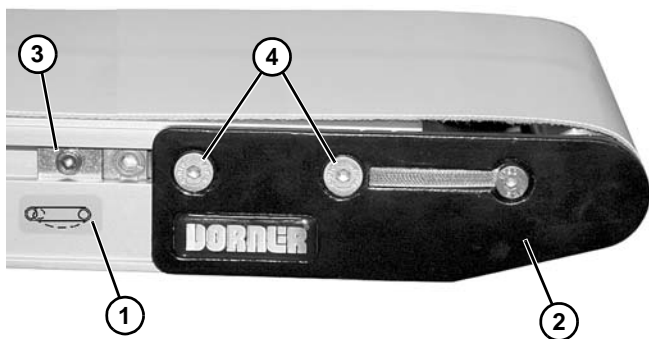

Figure 40
2. On tension end of the conveyor, identified with  a label (**Figure 40, item 1**), push in head plate assembly (**Figure 40, item 2**):
- a. On both sides of conveyor, loosen and move cam tracking assemblies (**Figure 40, item 3**) (if equipped) away from head plates.
- b. Loosen fastening screws (**Figure 40, item 4**) and push head plate assembly inward.